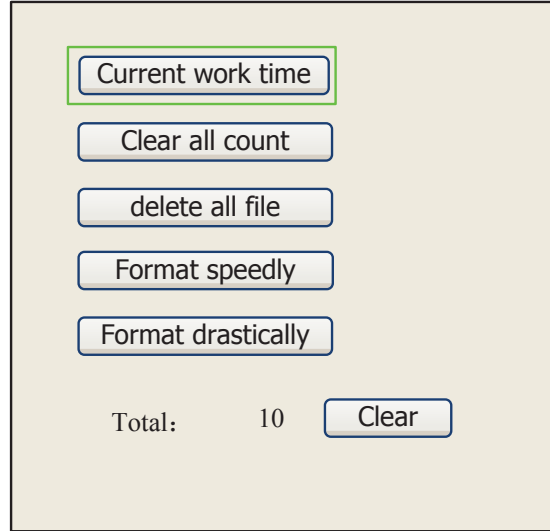

Figure 21. "Other" function display screen.
- **Other:** More operations of the memory files; **(Shown in Figure 21)**
If the "Other" entry is pressed, the system will show as below in **Figure 21**: